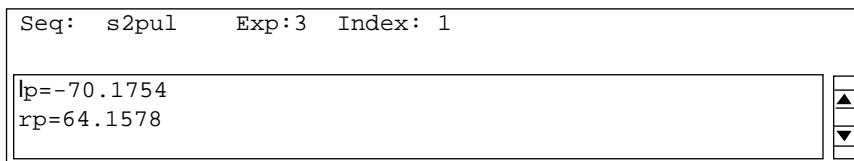

Figure 10. Status Window and Input Window
On most systems, the status window occupies the top two lines of the VNMR display as well as a three-line scrollable window that appears below the top two lines. **Figure 10** shows how a typical status window might look.
- The first line is a status line that informs the operator about the system action in progress. Near the center of this line is the name of the pulse sequence requested by the operator (“Seq: s2pul” in Figure 10). The sequence name is stored in the pslabel parameter. The status line continues with an indication of the current experiment number (“Exp: 3” in Figure 10). This number refers to the experiment currently displayed on the screen, which is the experiment the operator can currently control. How the data system defines an experiment is discussed below. Short messages frequently appear on the right end of status line to identify the particular program that is executing, such as “FT” when a Fourier transform is in progress or “CONT” when a contour plot is being drawn.